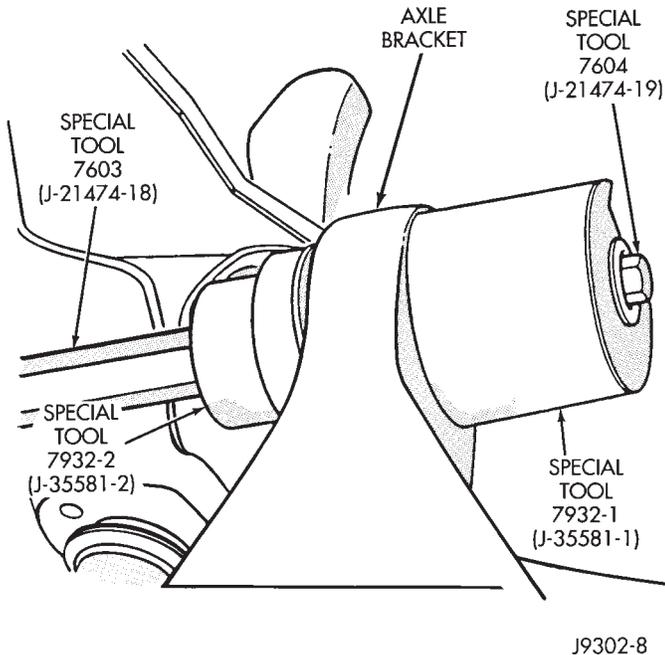

Fig. 6 Bushing Installation
- (1) Position new bushing, Receiver and Installer on axle (Fig. 6).
- (2) Install the bushing by tightening the Long Nut.